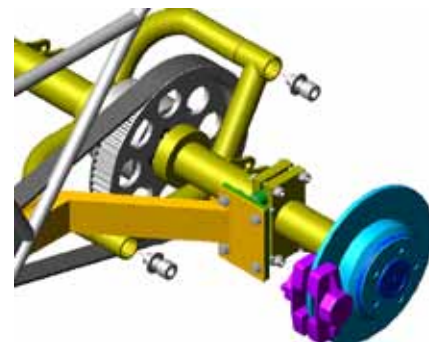

Figure 32
- e. Install the two 3/4" x 1 1/2" L Socket Head Cap Screws with Lock Washers to the Bullhorns, connecting the left side of the Axle Housing to the right. Coat bolts with Loctite ANTI-SEIZE prior to installation. Torque to 65 ft. lbs. Figure 32